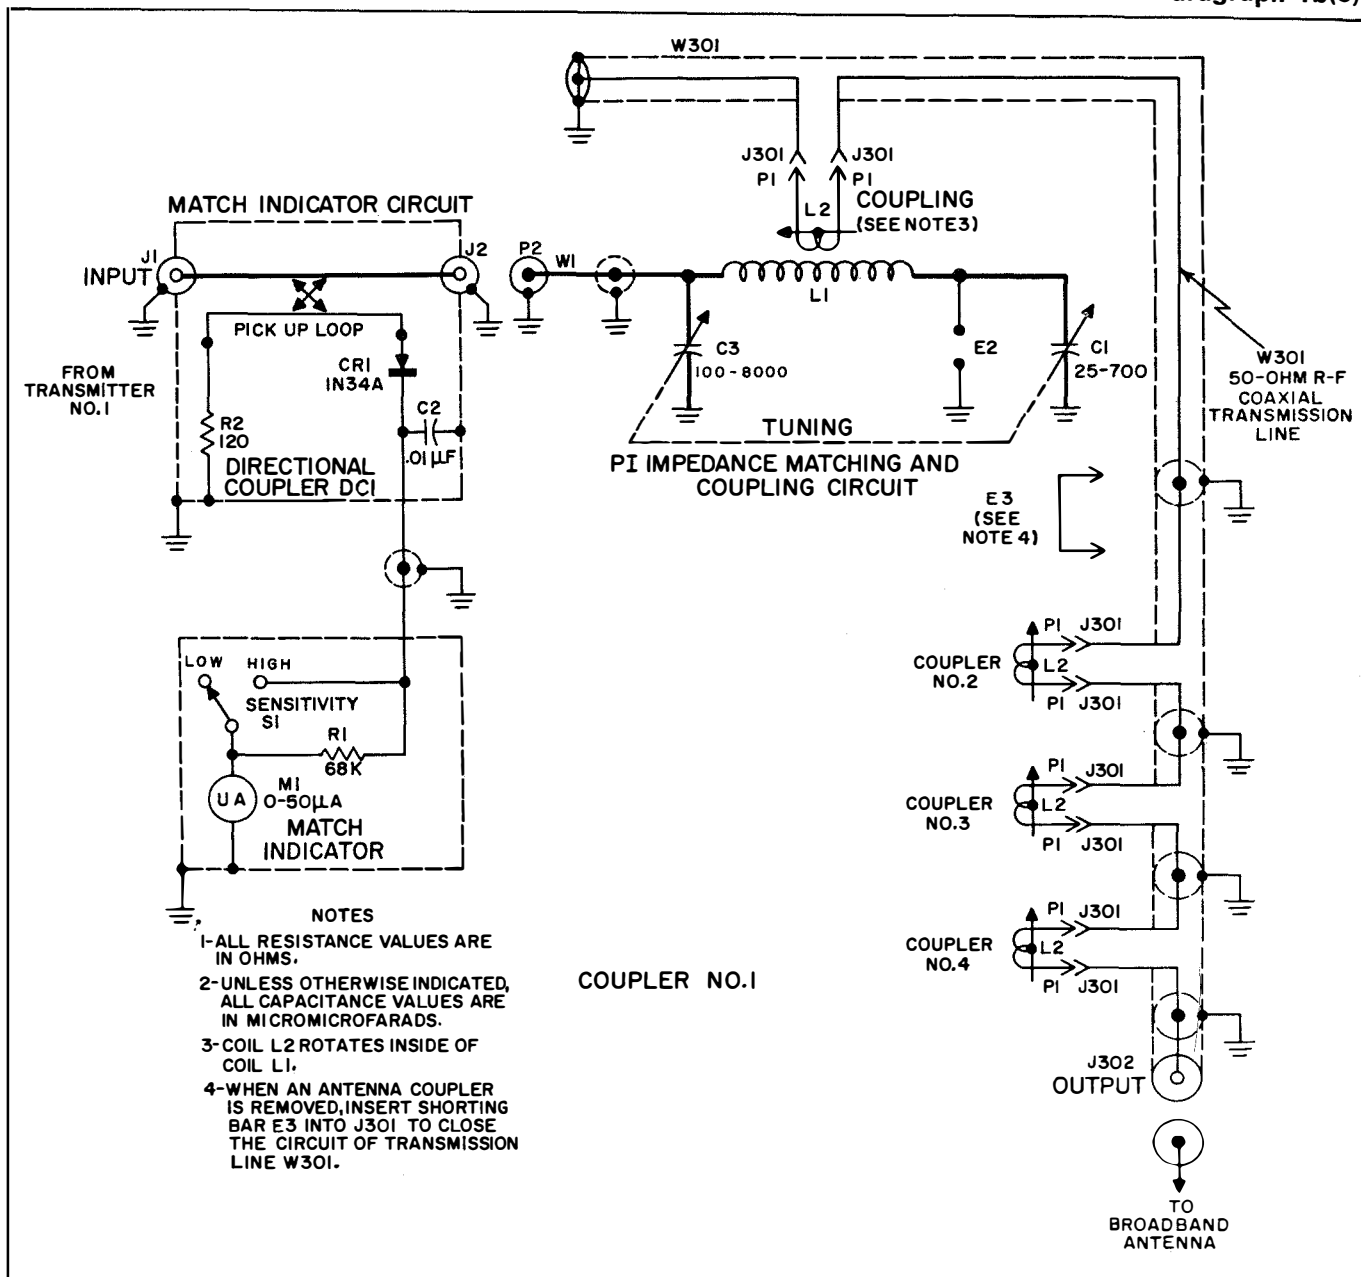

Figure 2-2. Coupler, Antenna CU-419/SRA-13, Simplified Schematic Diagram
should be made to figure 2-2 for a simplified schematic diagram of the Coupler, Antenna CU-419/SRA-13 used in Coupler Group, Antenna AN/SRA-13.
b. COUPLER, ANTENNA CU-419/SRA-13.—Coupler, Antenna CU-419/SRA-13, operating in the frequency range of 2—6 megacycles is used in Coupler Group, Antenna AN/SRA-13, and is represented schematically in figure 2-2. It consists of a match indicator circuit, and an input impedance matching and coupling circuit. Each circuit is discussed in the following paragraphs.
(2) MATCH INDICATOR CIRCUIT.—The match indicator circuit (see figure 2-2) of each antenna coupler is a special reflectometer which is connected in series with the transmission feed line. Its function is to detect the flow of r-f energy in one direction only, and thereby indicate the relative magnitude of r-f voltage being reflected back toward the transmitter from the coupler. When the antenna coupler is properly tuned, it presents approximately 50 ohms resistance at its input terminal, thus matching the 50-ohm impedance of the transmission line from the transmitter. This results in zero reflected power from the coupler, causing the microammeter marked MATCH INDICATOR to indicate minimum. The objective, therefore, when tuning is to adjust each antenna coupler at its proper operating frequency for a minimum indication on MATCH INDICATOR microammeter M1. The match indicator circuit consists of a directional coupler DC1 and a metering circuit which are discussed in the following paragraphs.